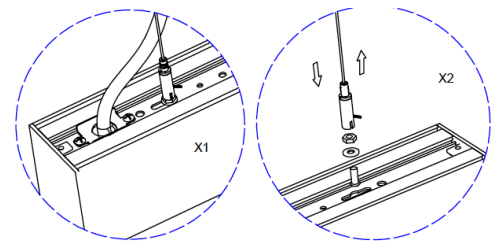

Fig. 10
4. Pull out the power cable and fix the gripper. Adjust the aircraft cable to achieve desired mounting height. Cut excessive cable if necessary. (Fig. 10)
6. Adjust the aircraft cable to achieve desired mounting height. Cut excessive cable if necessary. (Fig. 10)